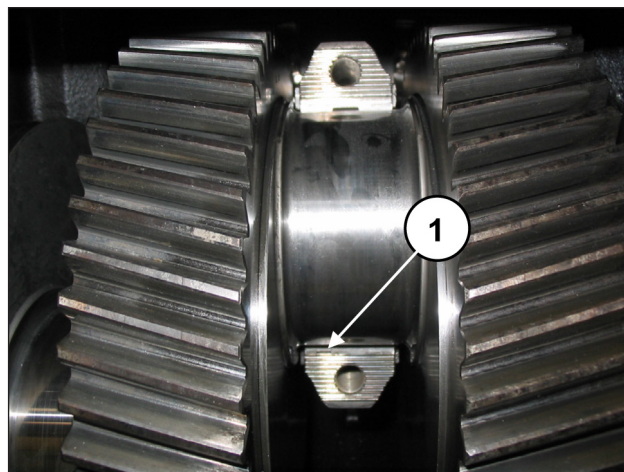

Fig. 81
For proper assembly of the half-bearings, ensure that the reference tab on the half-bearings are positioned in their housing on the half-conrod (pos. ①, Fig. 81).